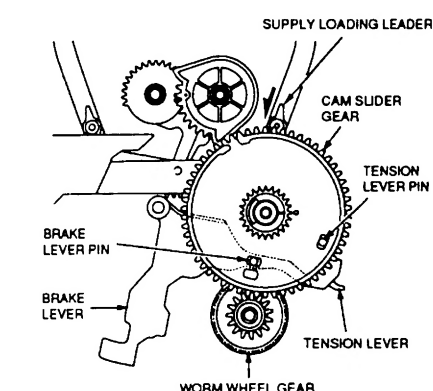

Fig 11.
- 1: Attach the WORM WHEEL GEAR as shown in Fig 11.
- 2: Place the CAM SLIDER GEAR on the shaft and adjust the position of the BRAKE LEVER and TENSION LEVER so that both pins appear through the holes on the CAM SLIDER GEAR as shown in Fig 11. When inserting the CAM SLIDER GEAR onto its shaft, press the SUPPLY LOADING LEADER slightly in the direction of the arrow to make installation easy.